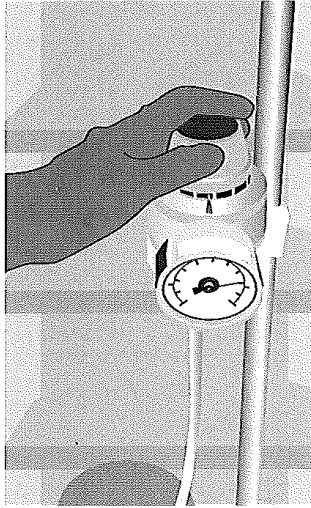

Fig 1. Select the appropriate vacuum pressure
- Select vacuum pressure (Fig 1). This should be at a low level. The general recommended pressure range is 8–20kPa (Pryor and Prasad, 2001).